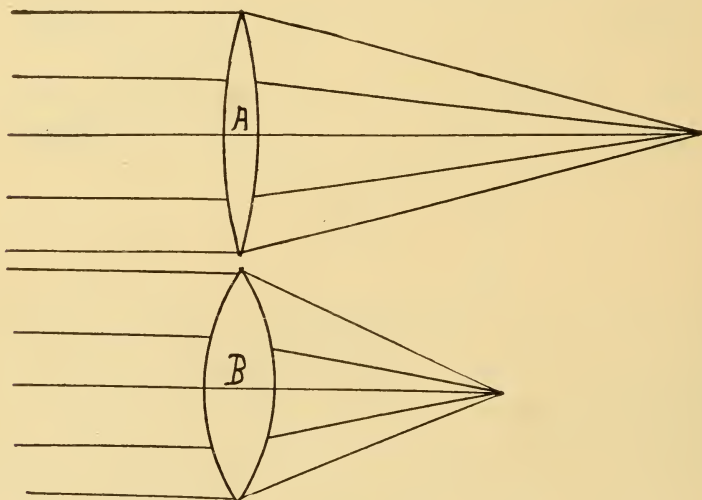
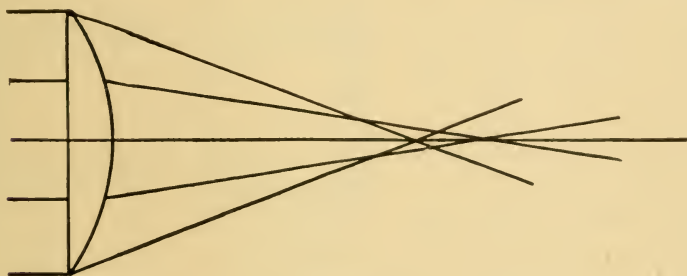

FIGURE 35
FIGURE 36
(50) The focal length of a lens is somewhat affected by the refractive index of its glass, but chiefly by the curvature of its surfaces. This is illustrated in Fig. 35, wherein we see two simple lenses in which the fault of spherical aberration has been disregarded. The actual performance of such lenses is shown in Fig. 36. It does not alter the focal length of the lens in any degree.
(51) Each surface of such lenses as are shown in Fig. 35 are exact duplicates of the curved surface of a disc cut from a polished glass ball having a diameter equal to the focal length of the lens. For example, a  $4\frac{1}{2}$  inch diameter,  $7\frac{1}{2}$  inch focal length plano convex lens would be an exact duplicate of a  $4\frac{1}{2}$  inch diameter section cut from a polished glass ball  $7\frac{1}{2}$  inches in diameter and afterward polished on its flat side. Were the diameter of the ball  $6\frac{1}{2}$  inches, then such a disc cut from it would be a  $6\frac{1}{2}$  inch focal length plano convex lens. Were we to grind the flat side into concave form, the lens then would be what we term a "meniscus" lens.
(52) Place two plano-convex lenses together and we have a bi-convex lens, examples of which are shown in Fig. 35. The refractive power of a bi-convex lens is double that of a single plano convex lens of equal surface curvature.
(53) Fig. 36 conveys visually the effect of spherical aberration. Examining it you will observe that rays passing through the lens close to its principal axis focus much further away from the lens plane than do the rays passing through its outer zones.